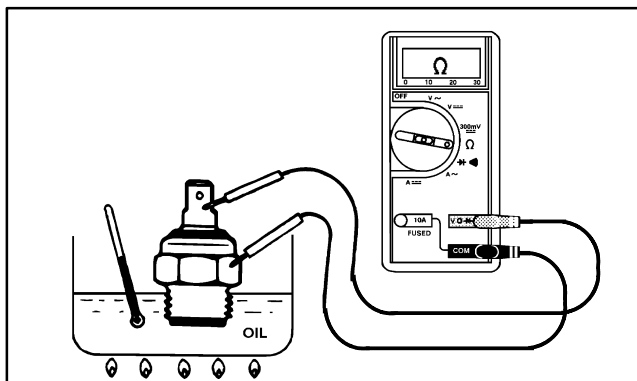

Figure 35
3. Put the end of the switch in a container of oil with a thermometer and slowly heat the oil (Fig. 35).